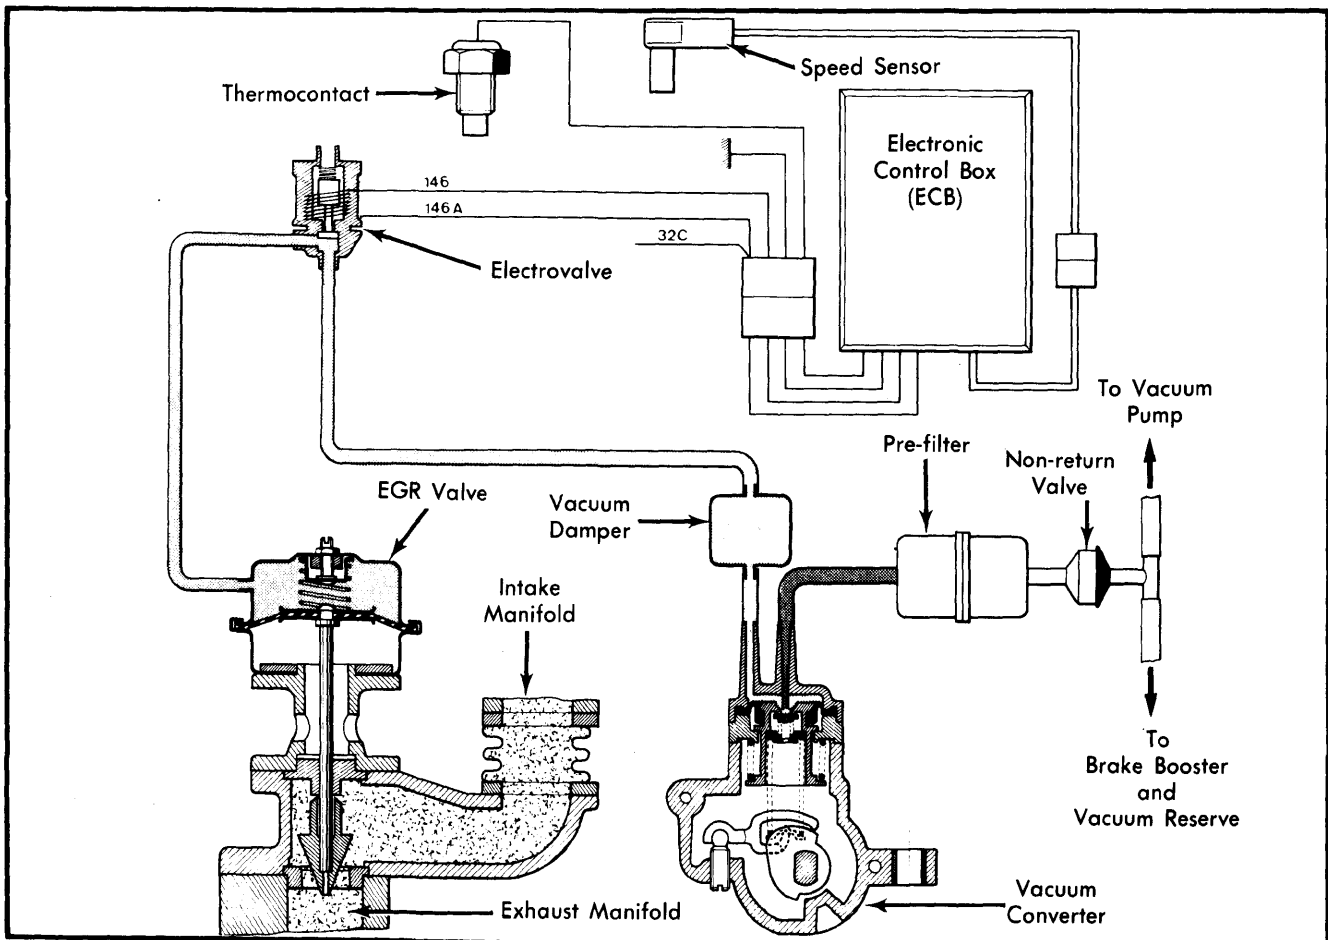

Fig. 1 Peugeot Turbo Diesel EGR System
**NOTE** — Tests are made with ignition switch in the "ON" position. Wires are identified by numbers painted on the wire insulation. See Fig. 1 for wire identification.